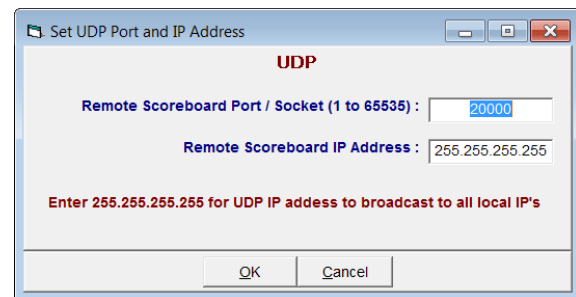

Figure 29: UDP Port for Daktronics Full Matrix
6. For the *Remote Scoreboard Port/Socket* option (Figure 29), enter "20000". Verify the *Remote Scoreboard IP Address* is "255.255.255.255", and then click **OK**.